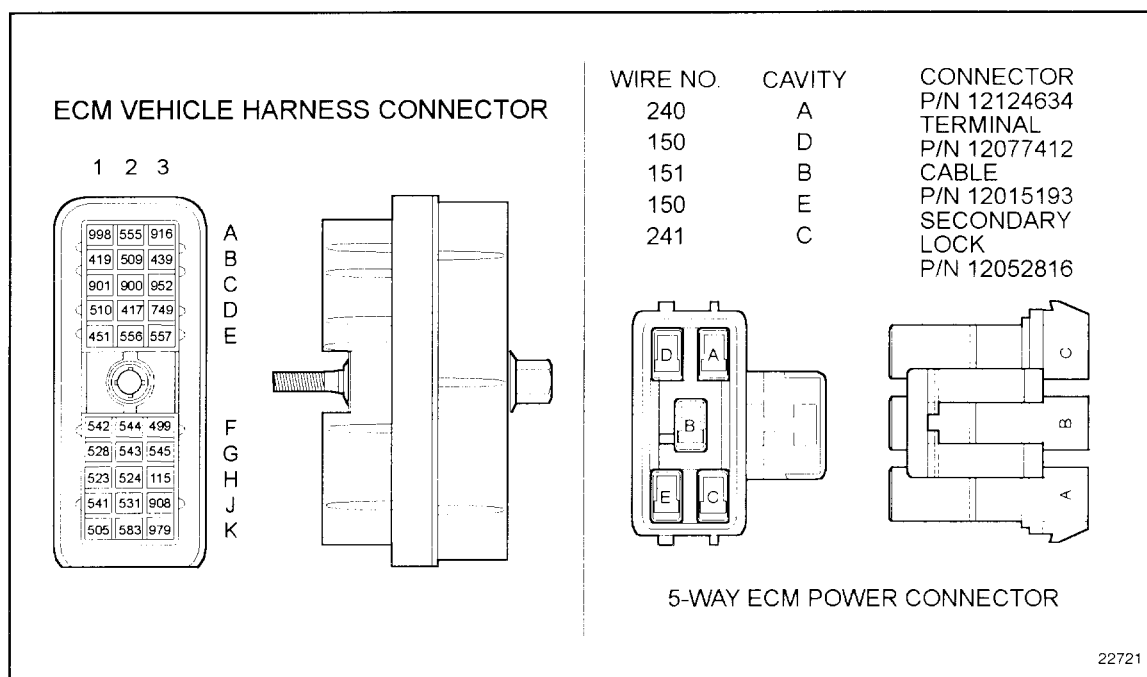

Figure 16-3 Vehicle Harness Connector
1. Inspect terminals at the vehicle harness connector (both the sensor and harness side) for bent, corroded and unseated pins or sockets. Check terminal and pin H3 at the ECM and all terminals and pins in the CLS connector. See Figure 16-3.